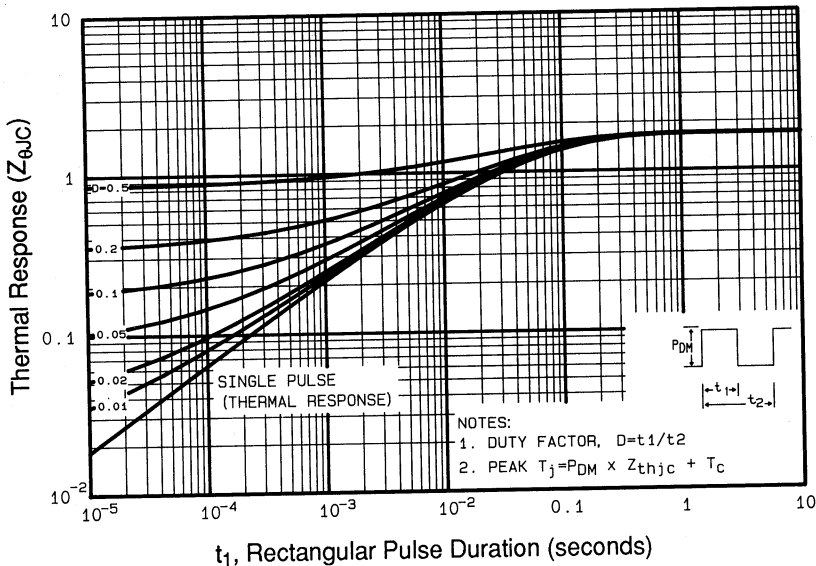

Fig 11. Maximum Effective Transient Thermal Impedance, Junction-to-Case
- ① Repetitive rating; pulse width limited by max. junction temperature. (See fig. 11)
- ② $V_{DD} = 50V$, starting $T_J = 25^\circ\text{C}$, $L = 41\text{mH}$